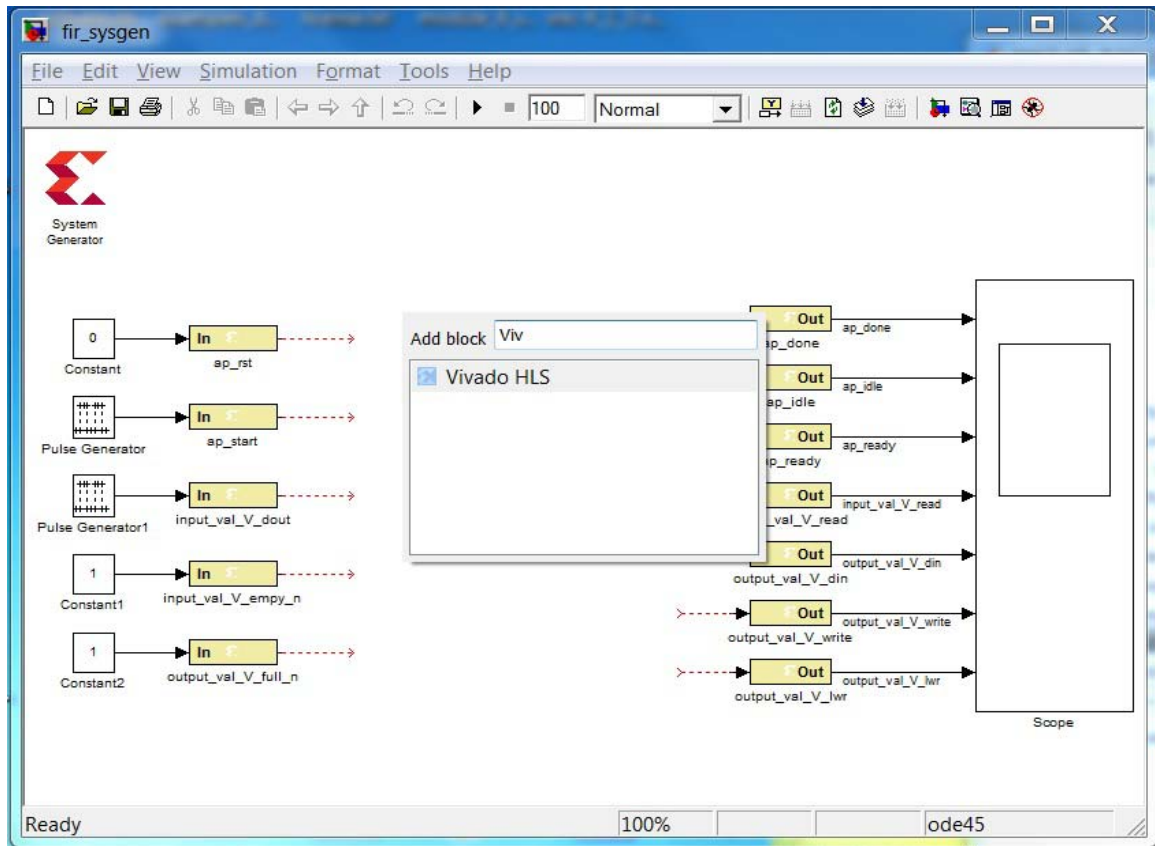

Figure 3-19: Instantiating an Vivado HLS Block
2. Scroll down the list in dialog box and select **Vivado HLS** or partially type the name Vivado HLS, as shown in Figure 3-19.